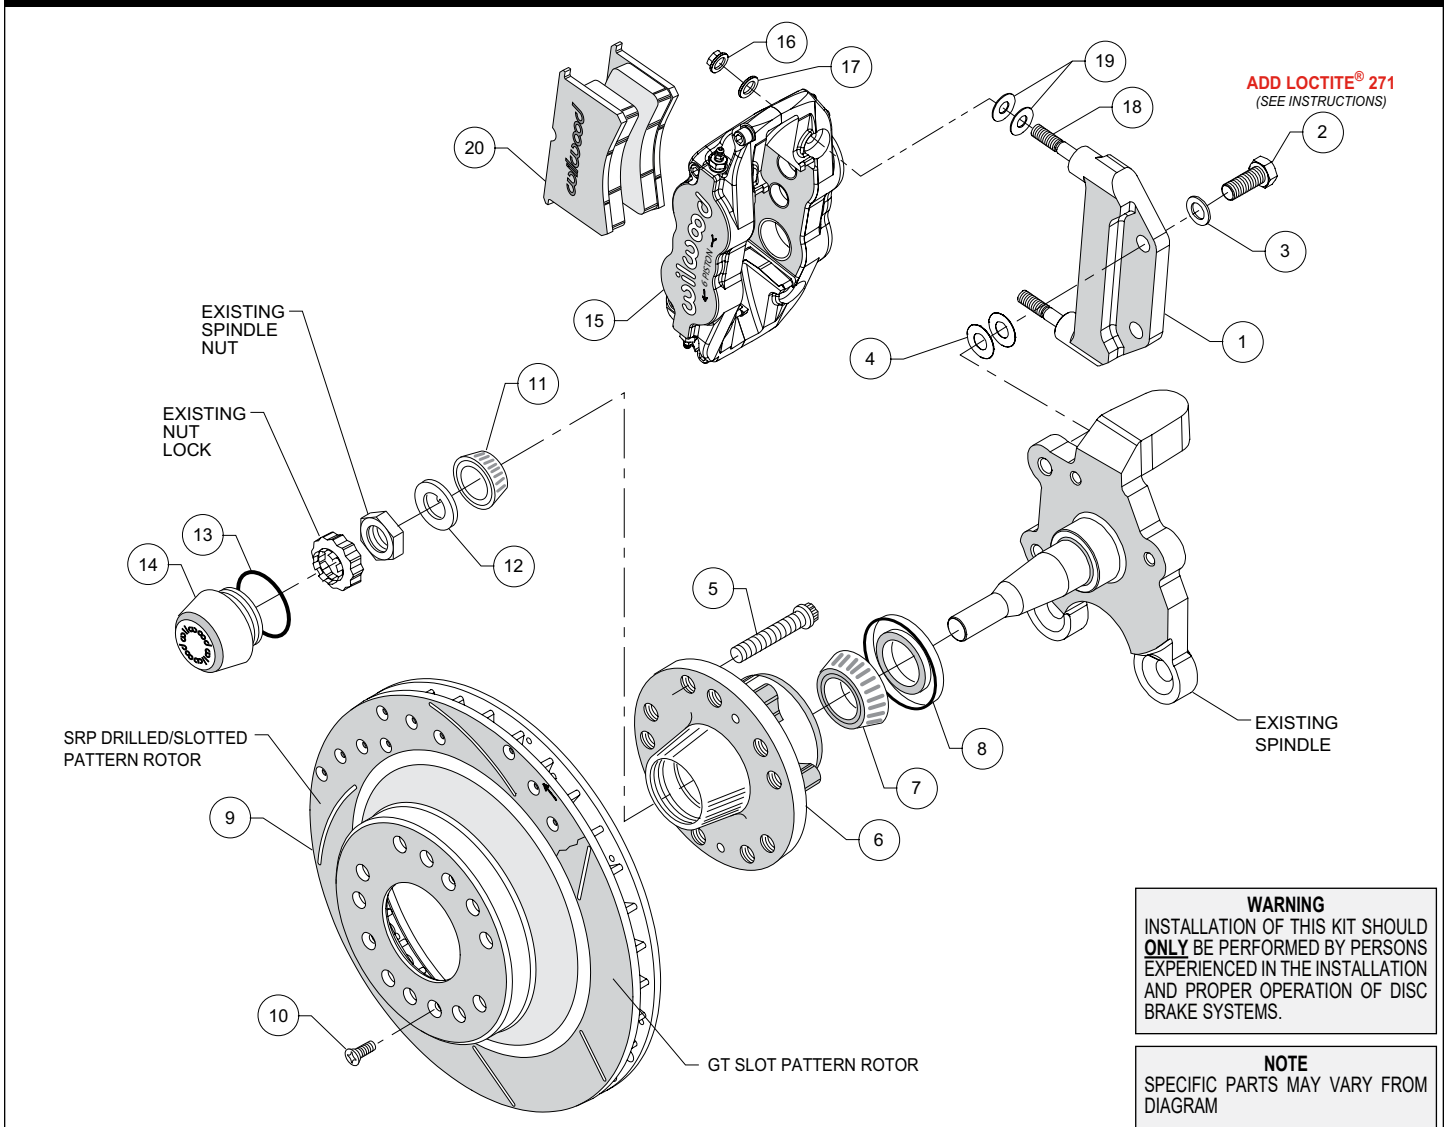

Figure 1. Typical Installation Configuration
**Assembly Instructions** (numbers in parenthesis refer to the parts list on the preceding page, and Figure 1):
- The caliper mount bracket (1) should initially be installed with clean, dry threads on the mounting bolts. Orient the bracket as shown in Figure 1, and install using bolts (2) and washers (3). Initially place two .015" thick shims (4) on each bolt between the bracket and upright, Figure 1 and Photo 1. Temporarily tighten the mounting bolts. **NOTE: The bracket must fit squarely against the mount bosses on the upright.** Inspect for interference from casting irregularities, machining ridges, burrs, etc. Later, after the caliper alignment has been checked, the mount bolts will be secured using red *Loctite*® 271.
• **NOTE:** This kit contains distinct right and left hand calipers that must be mounted in a specific direction, as described below. Initially place two .035" thick shims (19) on each stud (18) between the caliper and the bracket, as shown in Figure 1 and Photo 6. Mount the caliper (15) onto the bracket (1) using lock nuts (16) and washers (17), Figure 1. Ensure that the caliper is mounted so the largest pistons are at the rotor exit end of the caliper, in relation to the direction of rotor rotation. Temporarily tighten the lock nuts and view the rotor through the top opening of the caliper. The rotor should be centered in the caliper, Photo 7. If not, adjust by adding or subtracting shims (4) between the bracket and the upright. Always use the same amount of shims on each of the two mounting bolts. Once the caliper alignment is correct, remove the bracket mounting bolts one at a time, apply red *Loctite*® 271 to the threads, and torque to 77 ft-lb.